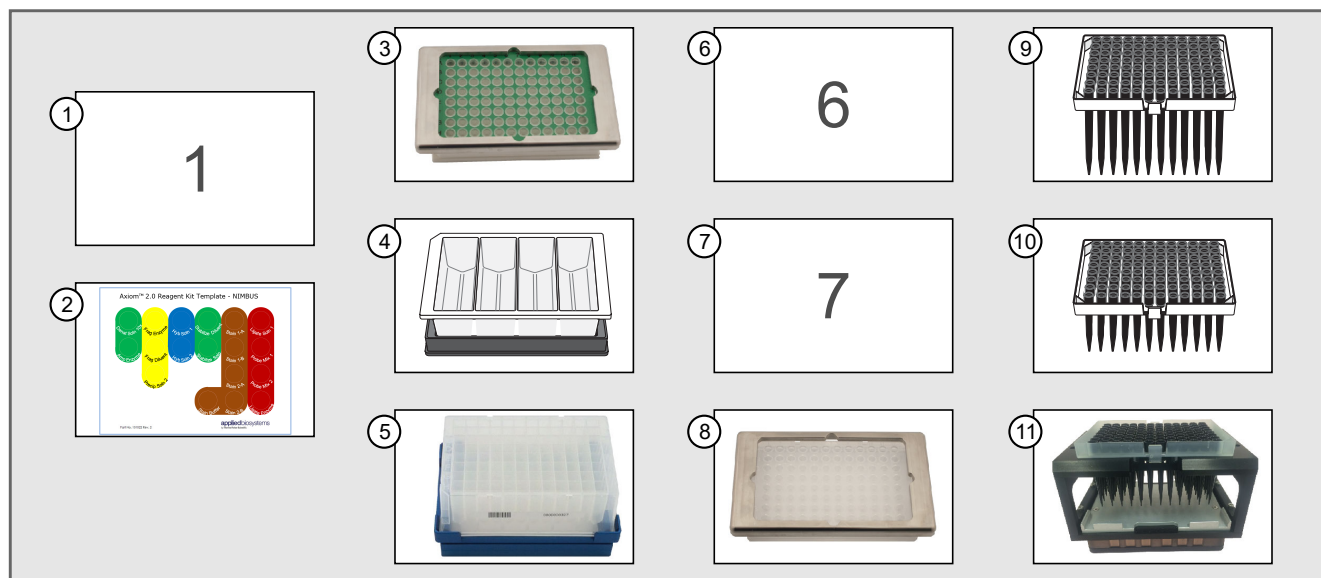

Figure 4 Stage 4B: Prepare Hybridization Master Mix deck layout.
2. Set up the deck as indicated in the deck setup prompt and following screens, then click **Run**. See Figure 4.